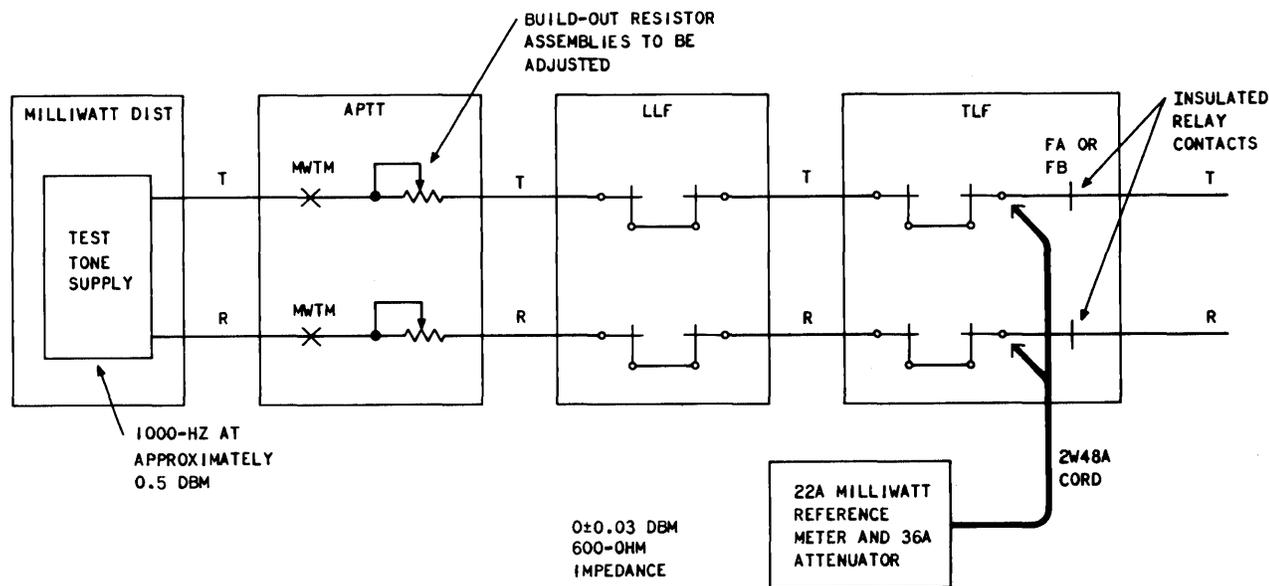

Fig. 10—Test Setup for Adjusting Build-Out Resistors for Manual Transmission Testing
F. Manual Transmission Testing—Terminating Test Line Build-Out (Fig. 10)